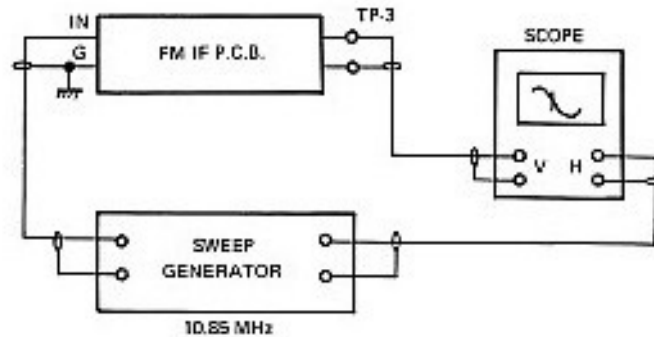

FIGURE 11
Step 1: Connect instruments as shown in Figure 11.